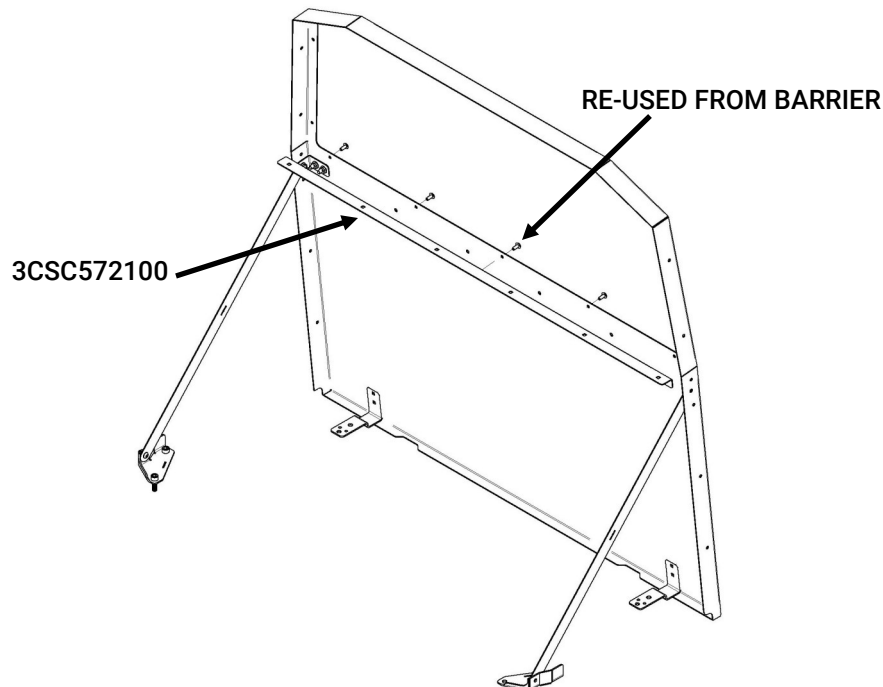

Figure 1
- A. Remove the (5) Phillips head screws and nuts that run horizontal across the bottom of the barrier screen / window.
- B. Attach CSC Front Bracket Weldment [3CSC572100] to barrier using fasteners from previous step (Figure 1).